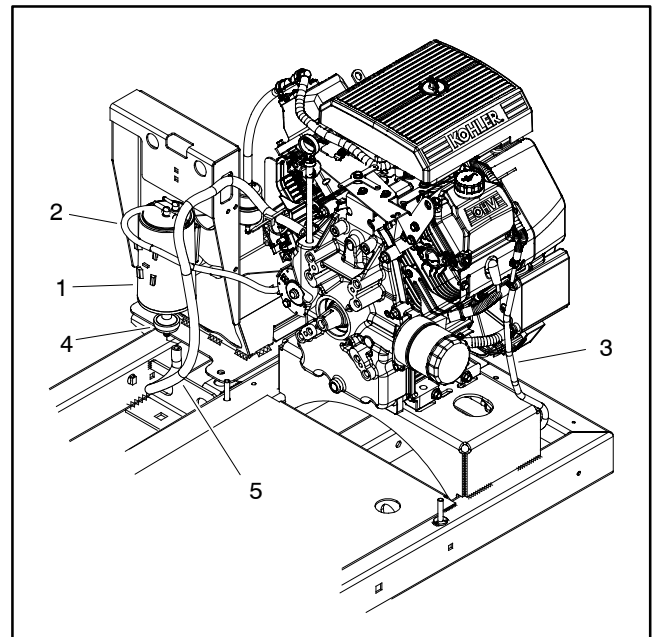

Figure 12
2. Remove components as needed using Figures 12 and 13 as guides.
1. Install all removed components using Figures 12 and 13 as guides.